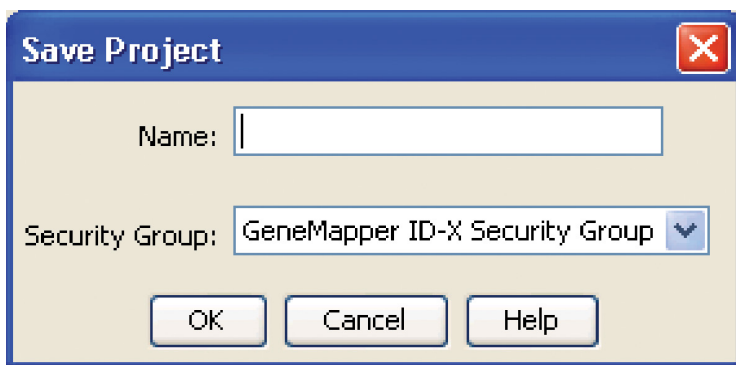

Figure 14. The 'Save Project' window.
9. If all analysis requirements are met, the 'Save Project' window will open (Figure 14).